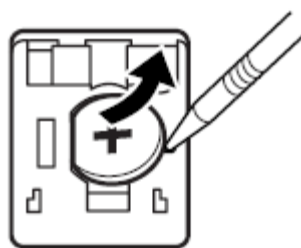

Fig. 2
3. Remove the exhausted battery and install one new lithium battery. Wipe the battery well with a dry cloth and place the plus “+” side upward. (Fig. 2)